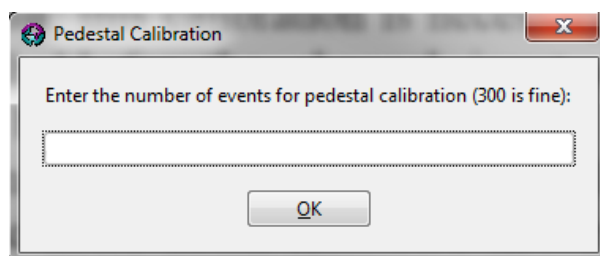

Figure 5.6: Pedestal Calibration window
- **Calibrate Pedestals:** by clicking on this item in the list, the user opens a new window displayed on **Figure 5.6**. The number of events for this calibration (300 is fine) has to be defined before clicking on ok.